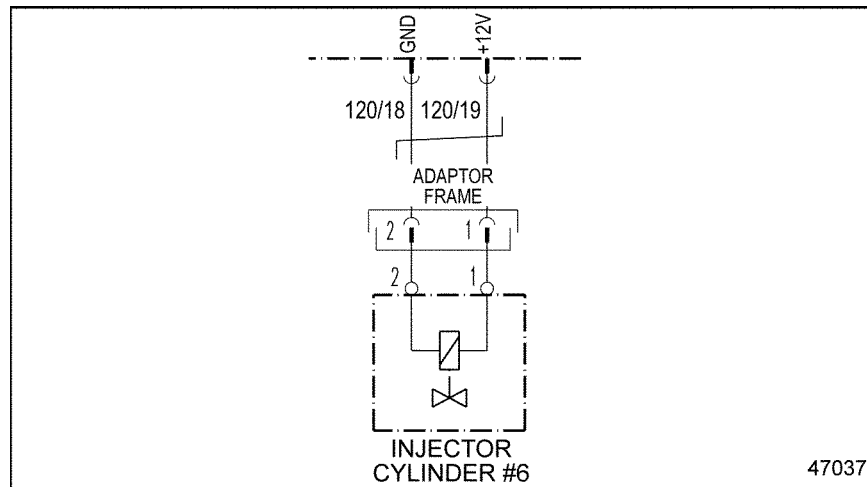

Figure 29-2 Injector #6
5. Measure the resistance between pin 1 of injector #6 and ground. See Figure 29-2.